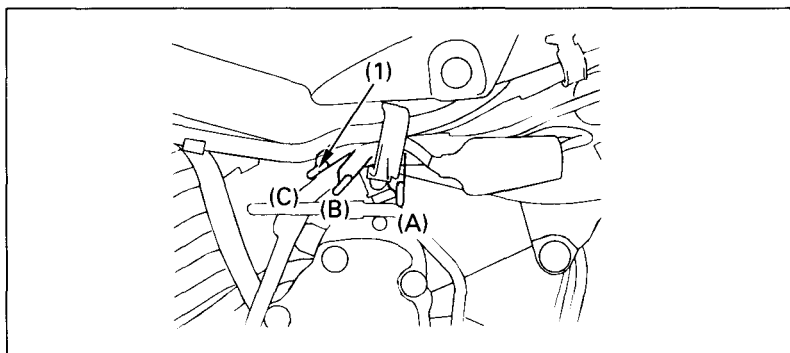

Fig. 2-6
The choke lever (Fig. 2-6) is on the left side of the carburetor. The choke has three positions: fully ON (C), halfway position (B), and fully OFF (A).